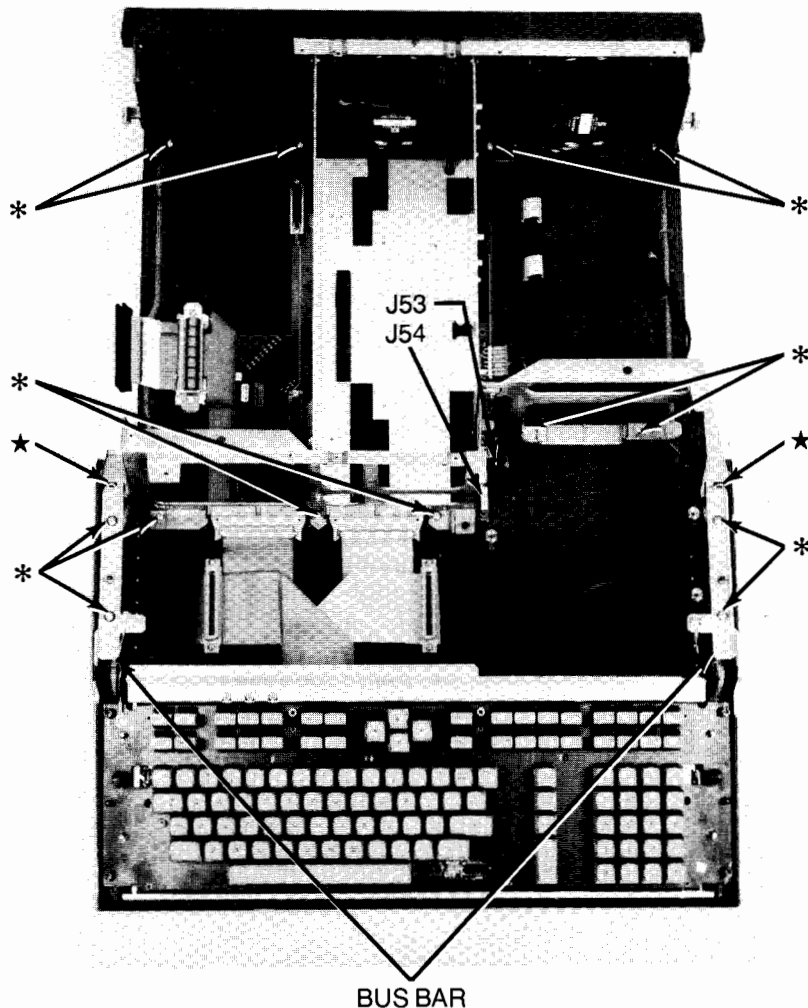

Figure 4-76. Removing "H" Casting
5. Disconnect disc drive cable connector(s) from motherboard connectors J53 and J54 (Figure 4-76).
6. Remove two 4-millimeter Allen screws that attach two bus bars to "H" casting (Figure 4-76).
7. Remove two #2 Pozidriv screws that attach each of the two bus bars to the chassis (Figure 4-76), and move bus bars out of the way.
8. Remove nine #2 Pozidriv screws and flat washers that attach "H" casting to base (Figure 4-76), and lift "H" casting, which includes rear grill, fans, and power supply bucket out of chassis.